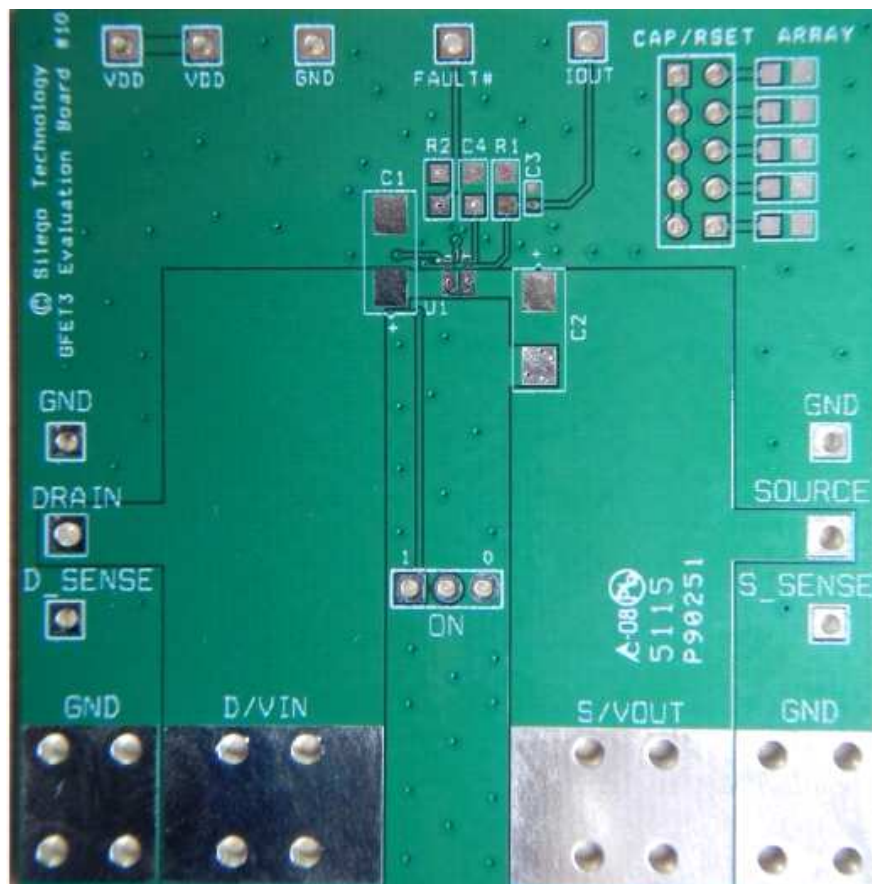

Figure 8. SLG59M1717V Evaluation Board
2. Since the VIN and VOUT pins dissipate most of the heat generated during high-load current operation, it is highly recommended to make power traces as short, direct, and wide as possible. A good practice is to make power traces with absolute minimum widths of 15 mils (0.381 mm) per Ampere. A representative layout, shown in Figure 8, illustrates proper techniques for heat to transfer as efficiently as possible out of the device;
A GreenFET Evaluation Board for SLG59M1717V is designed according to the statements above and is illustrated on Figure 8. Please note that evaluation board has D\_Sense and S\_Sense pads. They cannot carry high currents and dedicated only for RDSON evaluation.